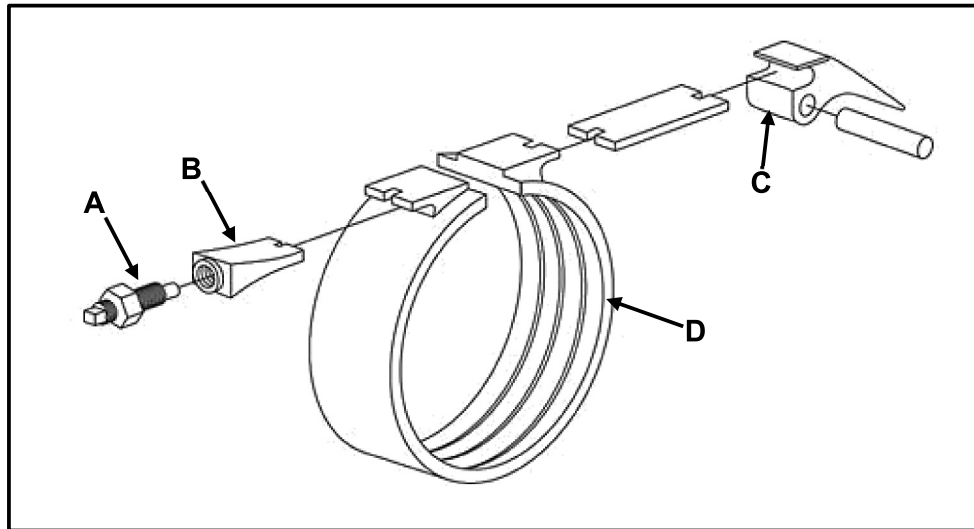

FIGURE 9.4
- 9.4 FIGURE 9.4 below shows an exploded view of a brake band in an automatic gearbox. Answer the questions that follow.